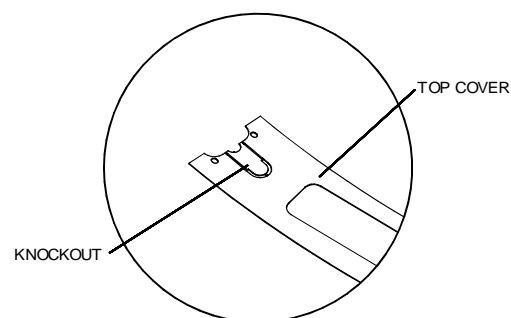

Fig. 10
20. Re-install top covers. If the bracket of the end plate chosen to connect the power cord, remove the knockout on the top cover (Fig. 10).